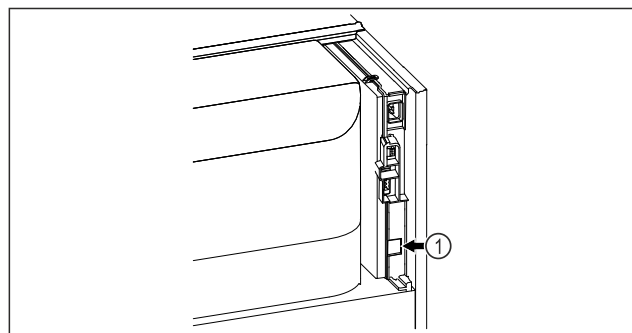

Fig. 84
- ❑ SmartModule Fig. 84 (1) is in use.